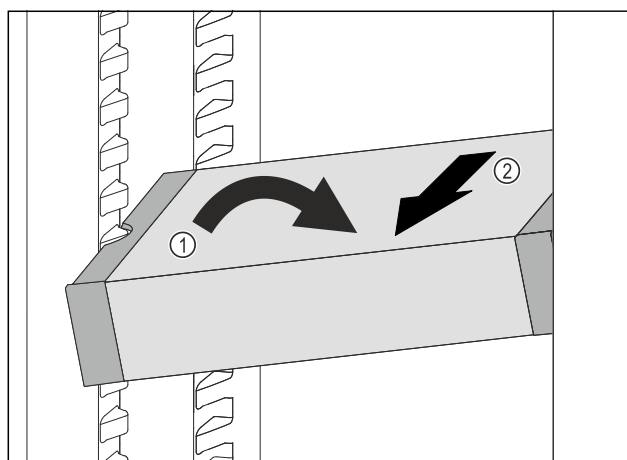

Fig. 128
- ▶ Set VarioSafe in refrigerator compartment at an angle. Fig. 128 (1)
- ▶ Take VarioSafe out to the front. Fig. 128 (2)